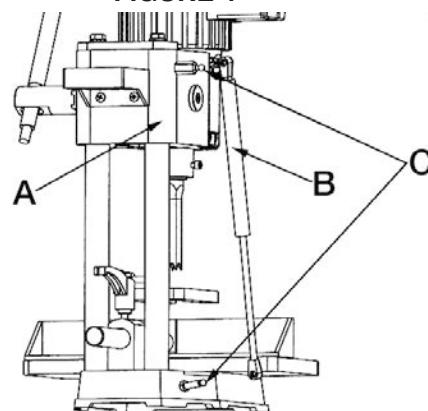

FIGURE 5
Make sure the head (A) Fig.5 is in the up position and assemble the gas cylinder (B) to the two fittings (C), one is located on the column and the other on the back of the head. The gas cylinder when assembled to the machine keeps the head in the up position.